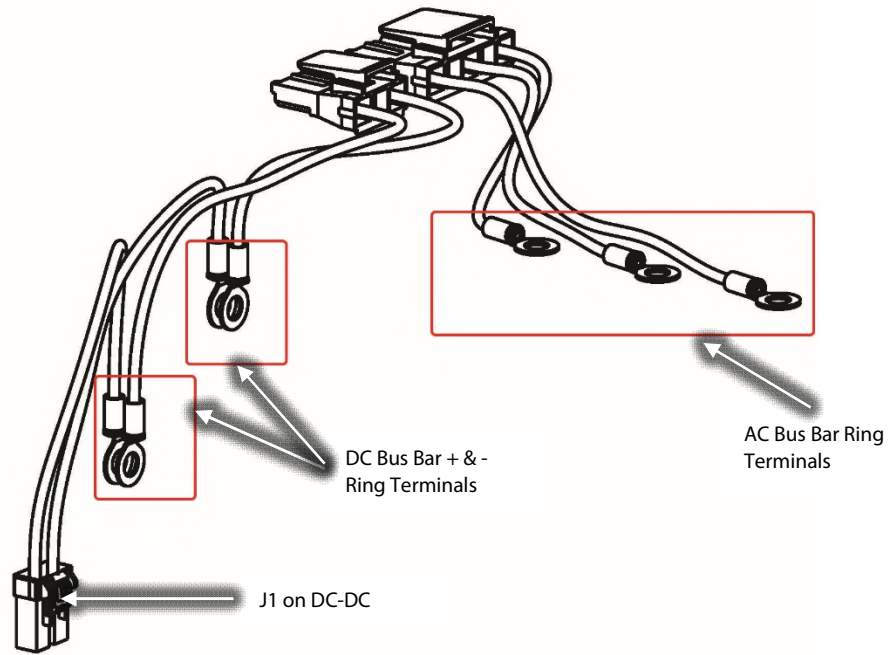

Figure 26 – Soft Start AC/DC Harness Ring Terminal Installation
2. For TTS300/TGS230 compressors, connect the -DC and +DC ring terminals to the DC bus bar. Refer to Figure 26 – *Soft Start AC/DC Harness Ring Terminal Installation*.
- a. Connect the three (3) ring terminals labeled L1, L2, and L3 to the AC bus bars. Refer to Figure 26 – Soft Start AC/DC Harness Ring Terminal Installation for this and the following step.